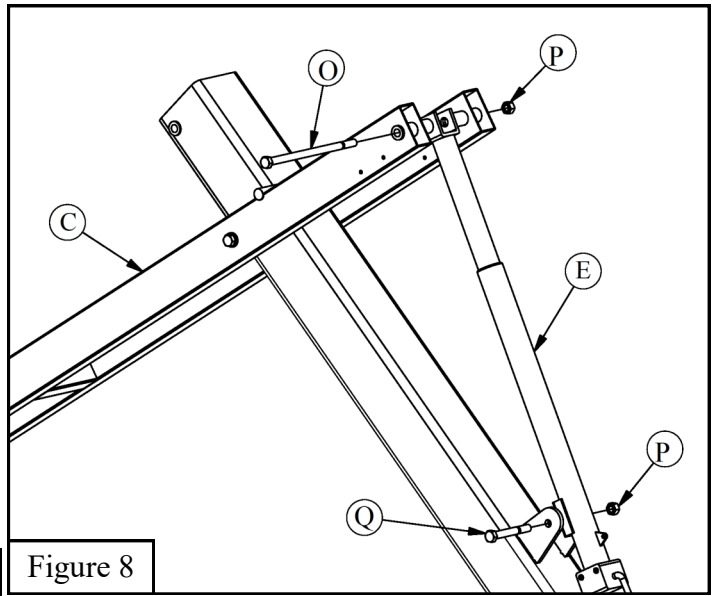

Figure 8
9. Attach the *Crank* (E) to the *Pole* (B) using a $5/8'' \times 5''$ Hex Bolt (Q) and $5/8''$ Lock Nut (P). Attach the other end of the *Crank* (E) to the *Lower Arm* (C) with a $5/8'' \times 12''$ Hex Bolt (O) and $5/8''$ Lock Nut (P). The *Crank* (E) may need to be extended to align the bolt holes. Tighten hardware snug against *Lower Arm* (C) and the tabs on the *Pole* (B), then back off $1/2$ turn. See Figure 8.